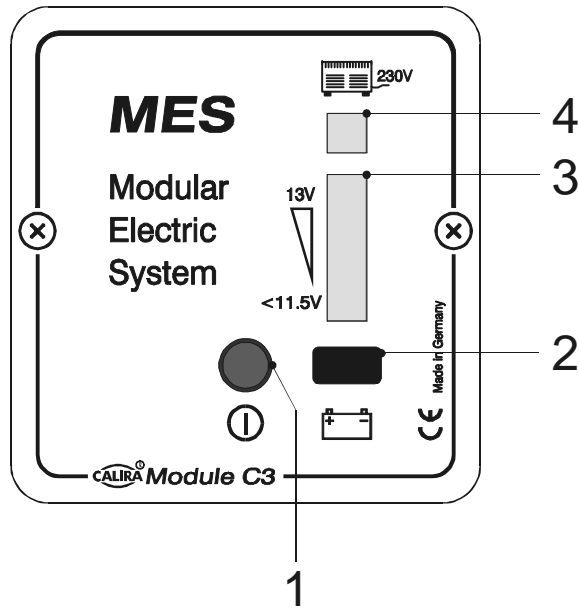

Fig. 1: Module C3
The main switch relay in Module B is activated by operating the main switch (illuminated button fig. 1 pos. 1). The main switch shines green when switched on. The 12 volts consumer can be switched to ON (button shines green) using the main switch and with a further actuation switched OFF, in connection with the main switch relay.
The charging control display lights up (green, fig. 1 pos 4) independently of the main switch, if the Module B is in mains charging operation and the supply battery is charged. Charging process see Module B description.
By pressing the button (fig. 1 pos. 2) the supply battery voltage on the battery voltage display (fig. 1 pos. 3) is shown by means of a LED chain.